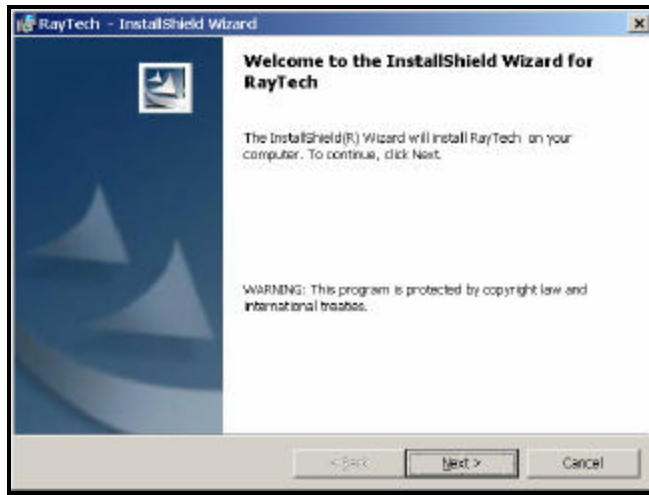

Figure 2-1. InstallShield Wizard Welcome Screen
1. Insert the CD into your PC. After a moment or two, the InstallShield Wizard Welcome screen (Figure 2-1) is displayed.